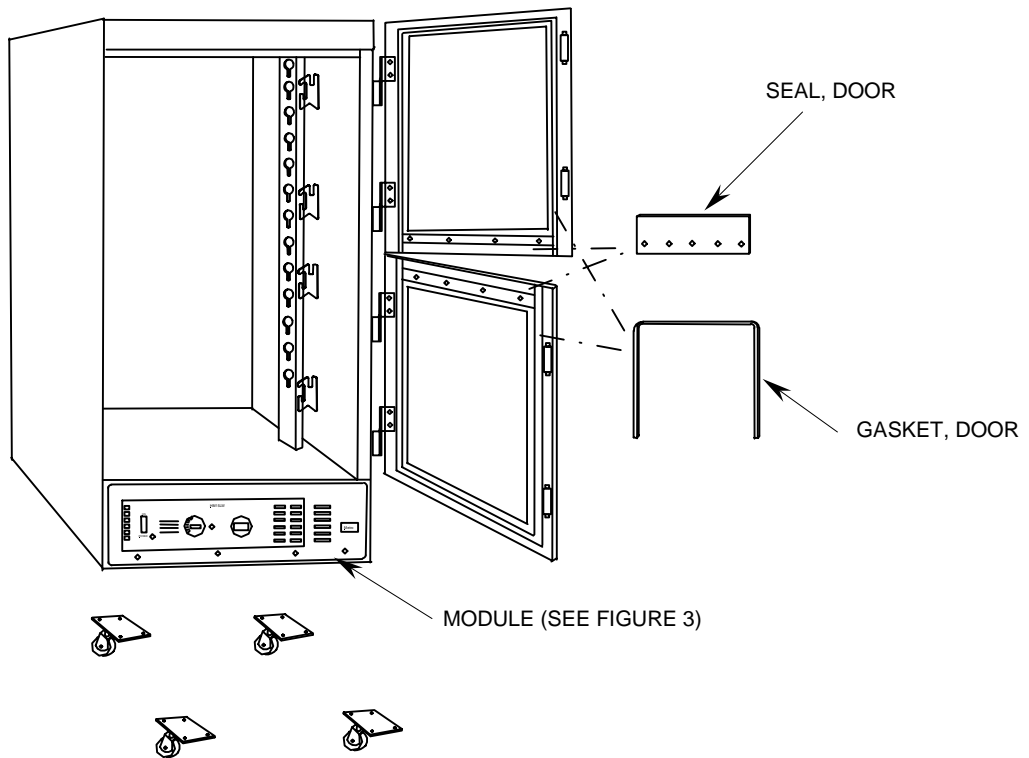

Figure 2. Mobile Warming Cabinet Maintenance.
**Door Gasket:** Refer to Figure 2. Starting at a corner, remove the old gasket from the door by pulling it out of the groove in the door frame. To install the replacement gasket, press the arrow-shaped edge of the new gasket into the groove. It may take up to eight hours depending on the ambient temperature for the gasket to seat properly.
**CONTAINERIZED KITCHEN (CK)
**Door Seal:** Refer to Figure 2. Remove and retain the five door seal mounting screws and the door seal retaining strip. Install the new door seal using retained hardware.